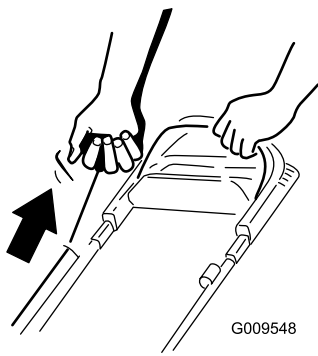

Figure 21
2. Pull the recoil-start handle (Figure 21).
Note: When you pull the recoil-start handle, pull it lightly until you feel resistance, then pull it sharply (Figure 21). Allow the rope to return to the handle slowly.